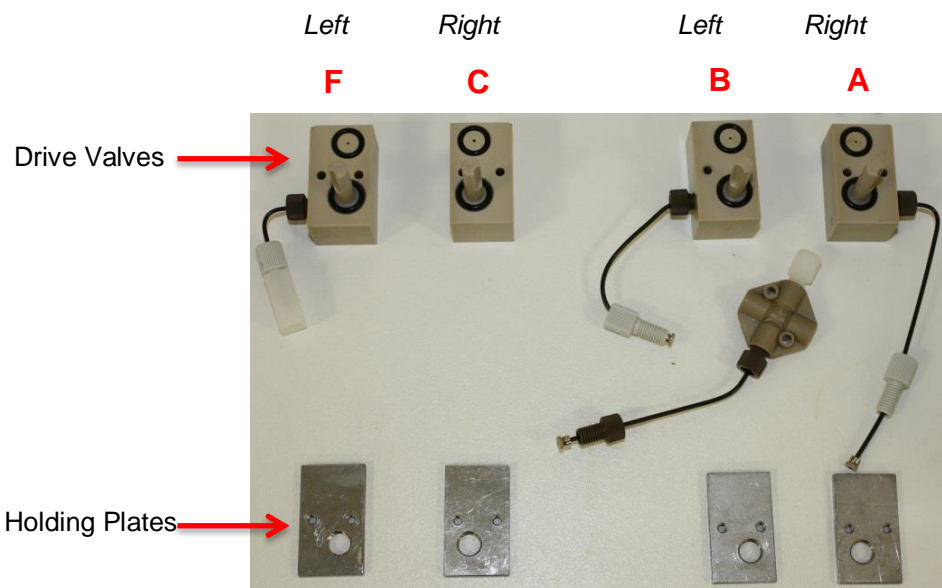

Figure 3.15 - Drive valve and holding plate orientations
- Install your new drive valve following the instructions above in reverse order, i.e. push the drive valve up through the hole in the water bath (after ensuring both O-rings are present), attach the appropriate flow line, screw the two drive screws into the holding plate, replace the washer, drive valve knob and luer fitting. Pay attention to the drive valve and holding plate orientation (Figure 3.15).